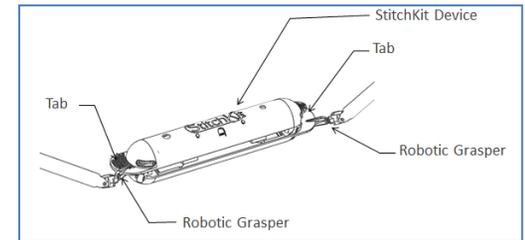

Figure 5 - Opening the StitchKit[®] Device using Robotic Graspers and tabs
- 5.4. Place the used needle (with remnant suture removed) into the disposal compartment via the trap door. It is typically easier to place the blunt aspect of the needle into the compartment first (Figure 5).